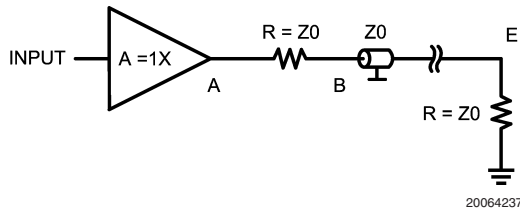
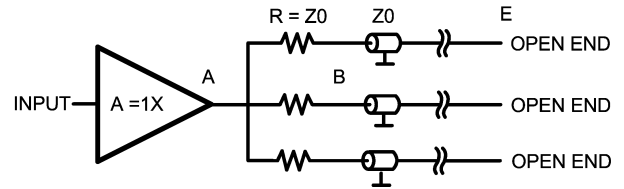
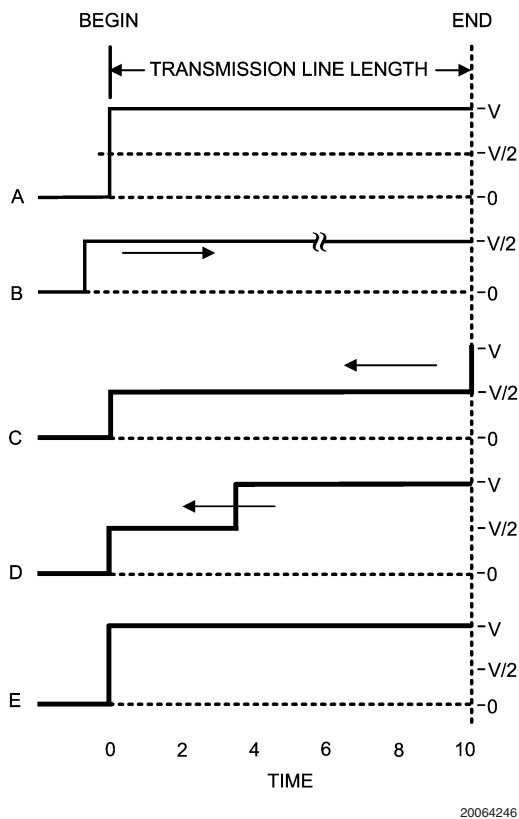

FIGURE 1.
FIGURE 3.
FIGURE 6.
- Use one buffer to drive one transmission line (see *Figure 1*)
- Use one buffer to drive several transmission lines each driving a different receiver. (see *Figure 3*)
In most cases, it is unrealistic to think that we can place a driver or buffer so close to the load that we don't need a transmission line to transport the signal. The pcb trace length between a driver and the load may affect operation depending upon the operating frequency. Sometimes it is possible to do measurements by connecting the DUT directly to the analyzer. As frequencies become higher the short lines from the DUT to the analyzer become long lines. When this happens there is a need to use transmission lines. The next point to examine is what happens when the load is connected to the transmission line. When driving a load, it is important to match the line and load impedance, otherwise reflections will occur and this phenomena will distort the signal. If a transient is applied at $T = 0$ (*Figure 6*, trace A) the resultant waveform may be observed at the start point of the transmission line. At this point (begin) on the transmission line the voltage increases to (V) and the wave front travels along the transmission line and arrives at the load at $T = 10$. At any point across along the line $I = V/Z_0$, where Z_0 is the impedance of the transmission line. For an applied transient of 2V with $Z_0 = 50\Omega$ the current from the buffer output stage is 40mA. Many vintage op amps cannot deliver this level of current because of an output current limitation of about 20mA or even less. At $T = 10$ the wave front arrives at the load. Since the load is perfectly matched to the transmission line all of the current traveling across the line will be absorbed and there will be no reflections. In this case source and load voltages are exactly the same. When the load and the transmission line have unequal values of impedance a different situation results. Remember there is another basic which says that energy cannot be lost. The power in the transmission line is $P = V^2/R$. In our example the total power is $2^2/50 = 80\text{mW}$. Assume a load of 75Ω . In that case a power of 80mW arrives at the 75Ω load and causes a voltage of the proper amplitude to maintain the incoming power.
Many applications, such as video, use a series resistance between the driver and the transmission line (see Figure 1). In this case the transmission line is terminated with the characteristic impedance at both ends of the line. See Figure 6 trace B. The voltage traveling through the transmission line
Another way to reach several points via a transmission line is to start several lines from one buffer output (see Figure 3). This is possible only if the output can deliver the needed current into the sum of all transmission lines. As can be seen in this figure there is a series termination used at the beginning of the transmission line and the end of the line has no termination. This means that only the signal at the endpoint is usable because at all other points the reflected signal will cause distortion over the line. Only at the endpoint will the measured signal be the same as at the startpoint. Referring to Figure 6 trace C, the signal at the beginning of the line has a value of $V/2$ and at $T = 0$ this voltage starts traveling towards the end of the transmission line. Once at the endpoint the line has no termination and 100% reflection will occur. At $T = 10$ the reflection causes the signal to jump to $2V$ and to start traveling back along the line to the buffer (see Figure 6 trace D). Once the wavefront reaches the series
termination resistor, provided the termination value is Z_0 , the wavefront undergoes total absorption by the termination. This is only true if the output impedance of the buffer/driver is low in comparison to the characteristic impedance Z_0 . At this moment the voltage in the whole transmission line has the nominal value of 2V (see Figure 6 trace E). If the three transmission lines each have a different length the particular point in time at which the voltage at the series termination resistor jumps to 2V is different for each case. However, this transient is not transferred to the other lines because the output of the buffer is low and this transient is highly attenuated by the combination of the termination resistor and the output impedance of the buffer. A simple calculation illustrates the point. Assume that the output impedance is 5Ω . For the frequency of interest the attenuation is $V_B/V_A=55/5=11$, where A and B are the points in Figure 3. In this case the voltage caused by the reflection is $2/11 = 0.18V$. This voltage is transferred to the remaining transmission lines in sequence and following the same rules as before this voltage is seen at the end points of those lines. The lower the output resistance the higher the decoupling between the different lines. Furthermore one can see that at the endpoint of these transmission lines there is a normal transient equal to the original transient at the beginning point. However at all other points of the transmission line there is a step voltage at different distances from the startpoint depending at what point this is measured (see trace D).